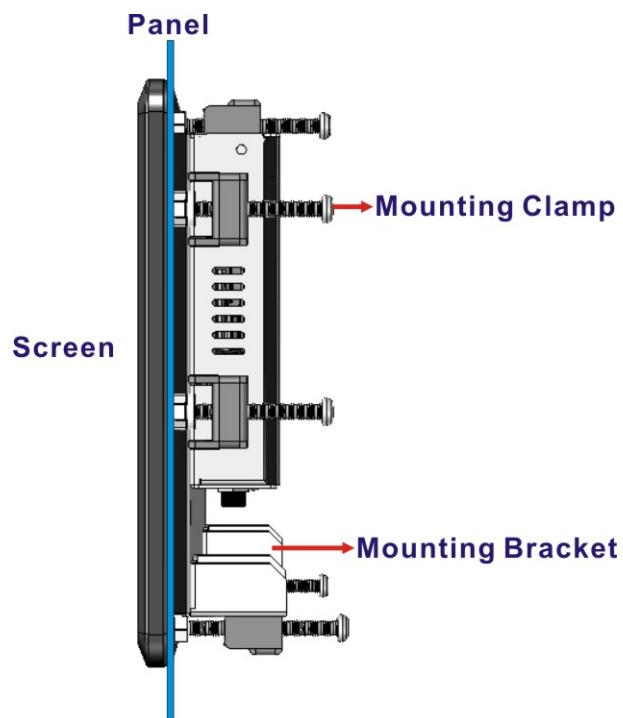

Figure 3-19: Tighten the Mounting Clamp Screws
Step 5: Insert the mounting clamps into the mounting brackets and pre-formed holes along the edges of the PPC-F08B/F10B-BT, behind the aluminum frame (**Figure 3-19**). There are a total of eight mounting clamps required.
Step 6: Tighten the screws that pass through the mounting clamps until the plastic caps at the front of all the screws are firmly secured to the panel (**Figure 3-19**).